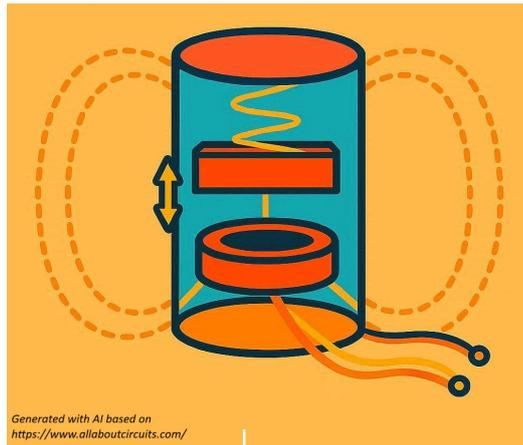

Figure 1: The EHs set-up based on the Faraday's Law using a set-up with a disc.
- To know the printing techniques on hands (VPP and MEX) - the simple cantilever/disc (Fig. 1), coil design (planar) and printing process performing (2nd day)